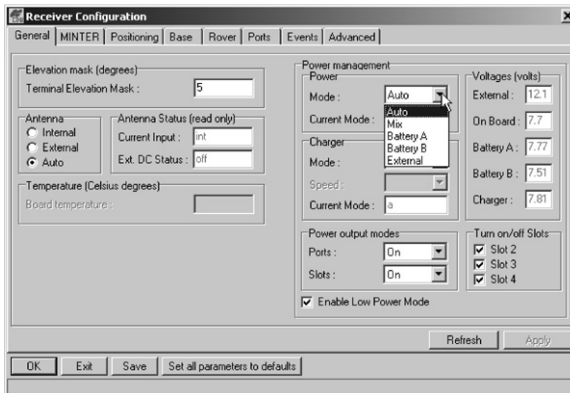

Figure 2-13. Select Power Mode
3. Select the Power Mode drop-down list to set the desired power source (Figure 2-13). Current Mode displays the current power source.